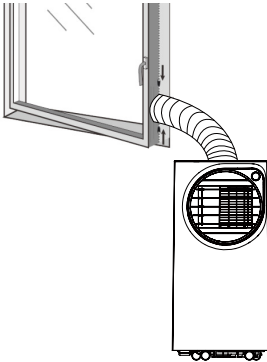

Fig.2
- 2) As shown in Fig.2, install the exhaust hose, and adjust the window position well.